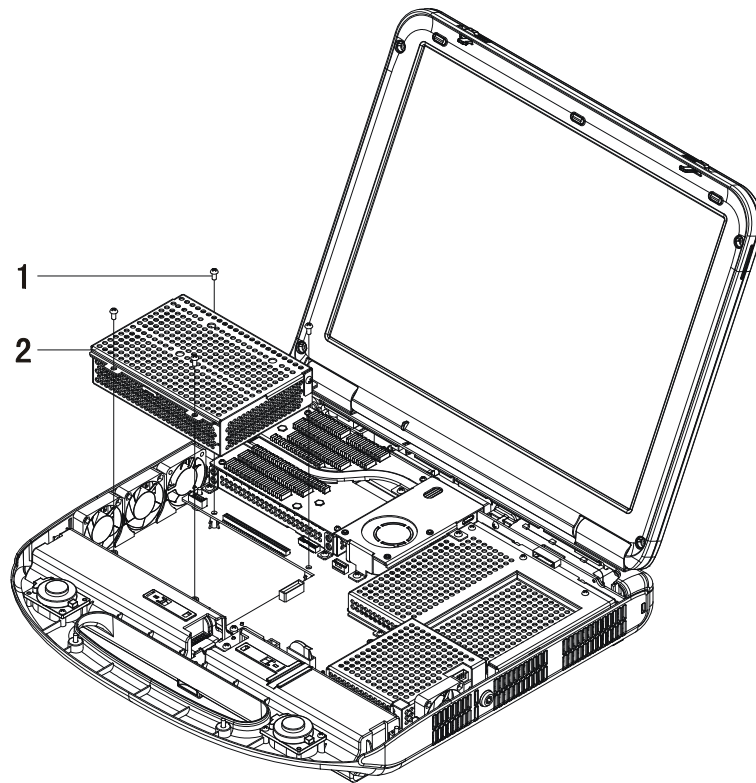

Figure 4-16 Removing Power Board
- 2) As shown in Figure 4-16, remove four M3×6 Philips panhead screws to take out the power board from the main board.